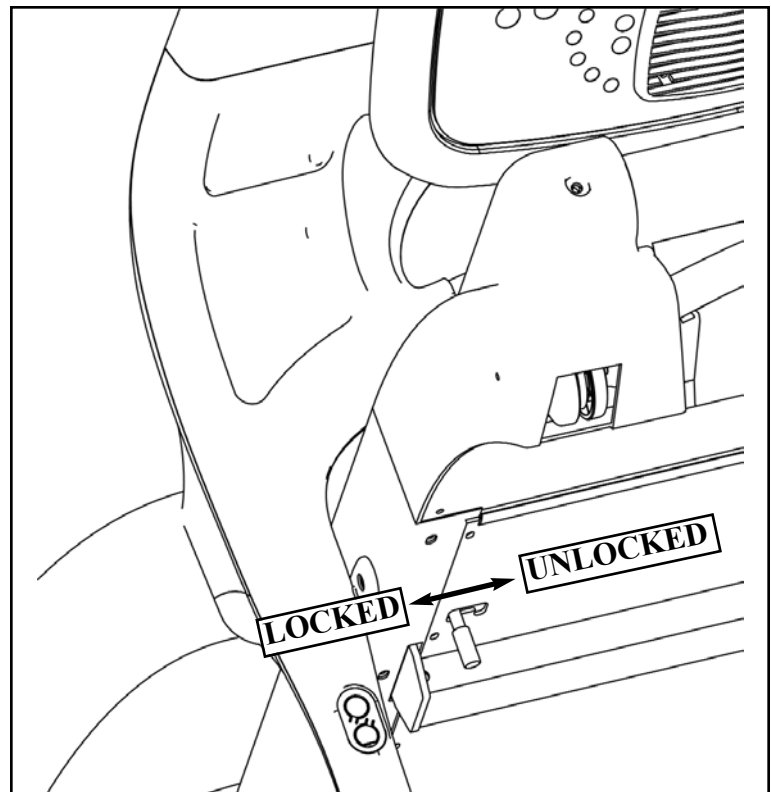

Figure 6: Storage Position Locking Method
7. Fold the treadmill into the storage position and lock into place as shown in Figure 6.